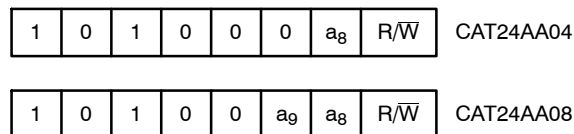

Figure 3. Slave Address Bits
The Master addresses a Slave by creating a START condition and then broadcasting an 8-bit Slave address (Figure 3). The four most significant bits of the Slave address are 1010 (Ah). The next three bits from the Slave address byte are assigned as shown in Figure 3, where  $a_9$  and  $a_8$  are internal address bits. The last bit,  $R/\overline{W}$ , instructs the Slave to either provide (1) or accept (0) data, i.e. it specifies a Read (1) or a Write (0) operation.